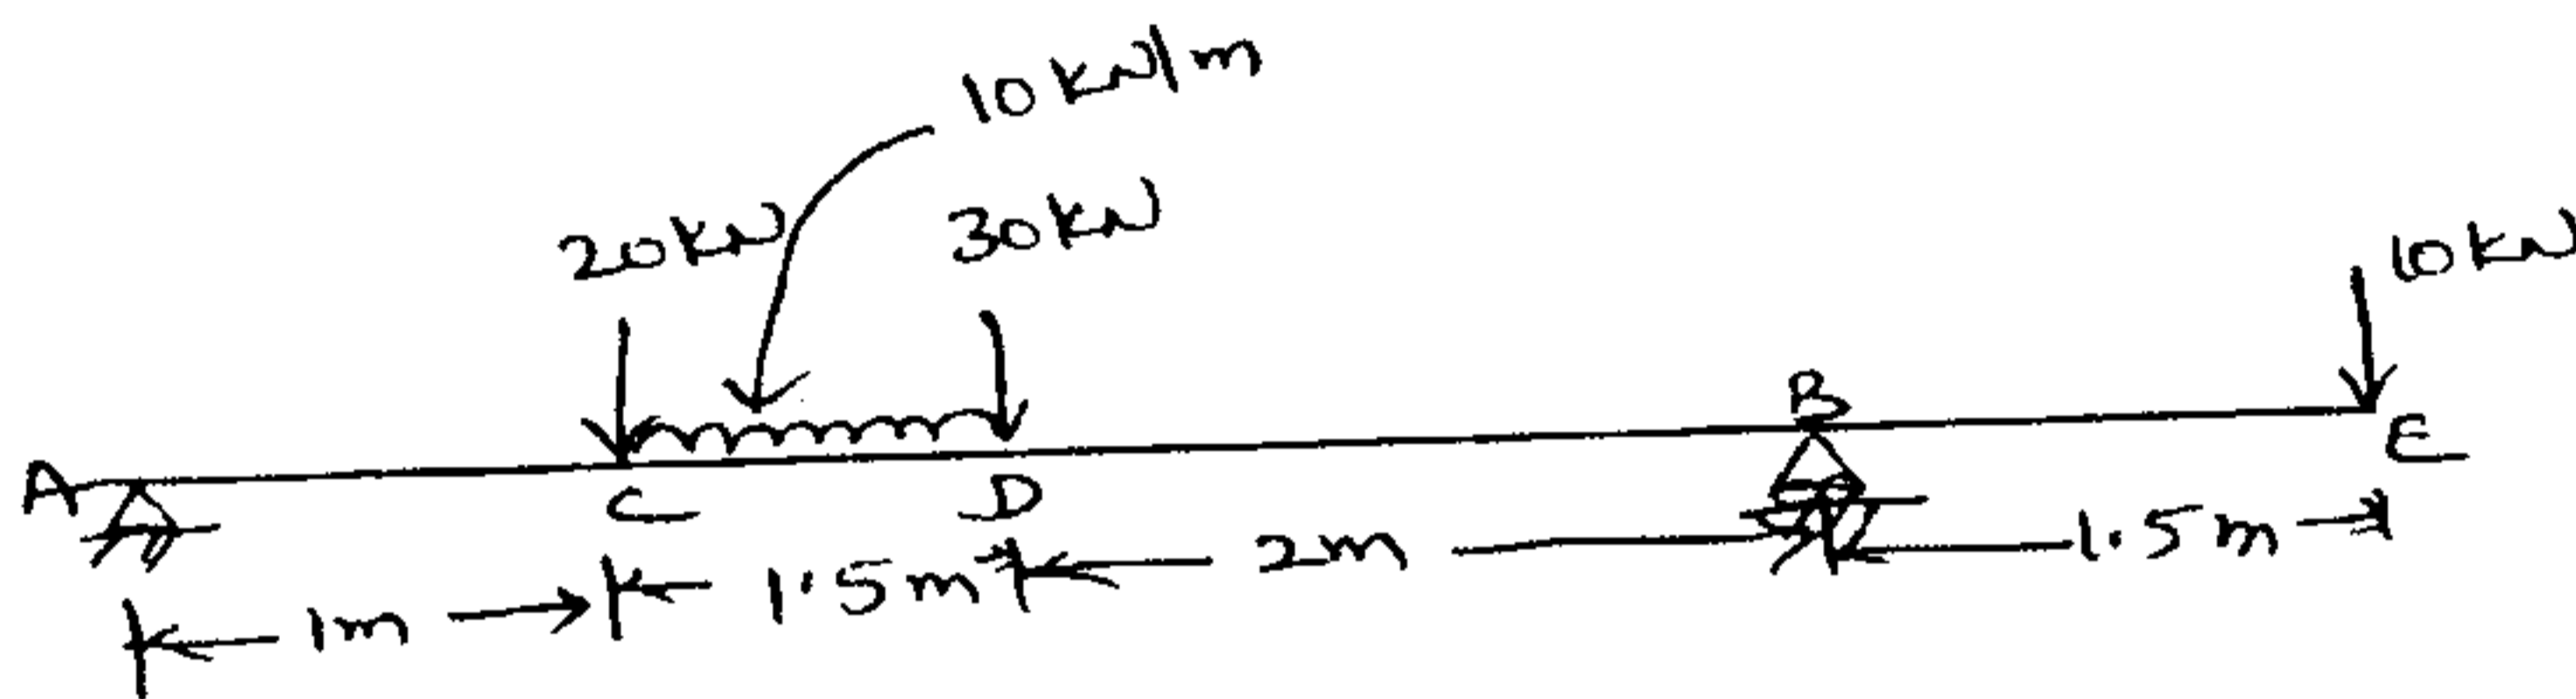

Figure -1
b) Draw the shear force and bending moment diagrams for the beam shown in Figure-1. Also determine the maximum bending moment and location of point of contra flexure. 7 M